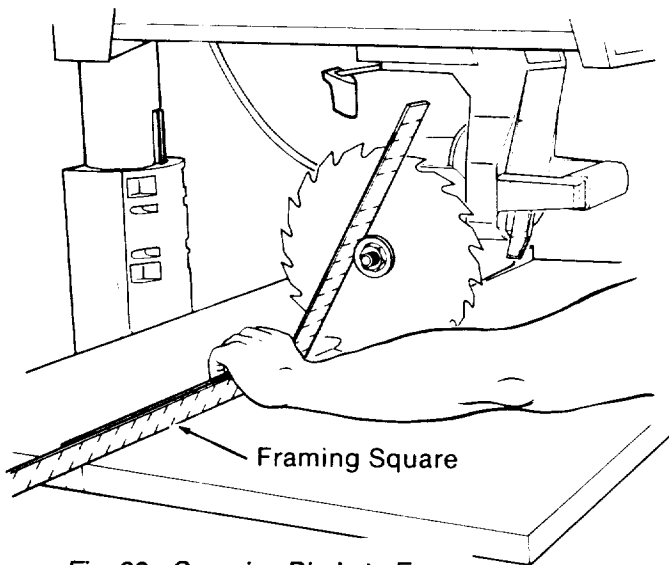

Fig. 89 - Squaring Blade to Fence
1. Put the *radial arm* in the 0° miter position with the *blade* just in front of the *fence*. (Figure 89)
3. Place the framing square with the long edge against both the *fence* and the *table*, and the short edge against the *blade* just above the *arbor shaft*. Make sure that the edge of the square is on the *blade* and not on the set of a tooth. (Figure 89)